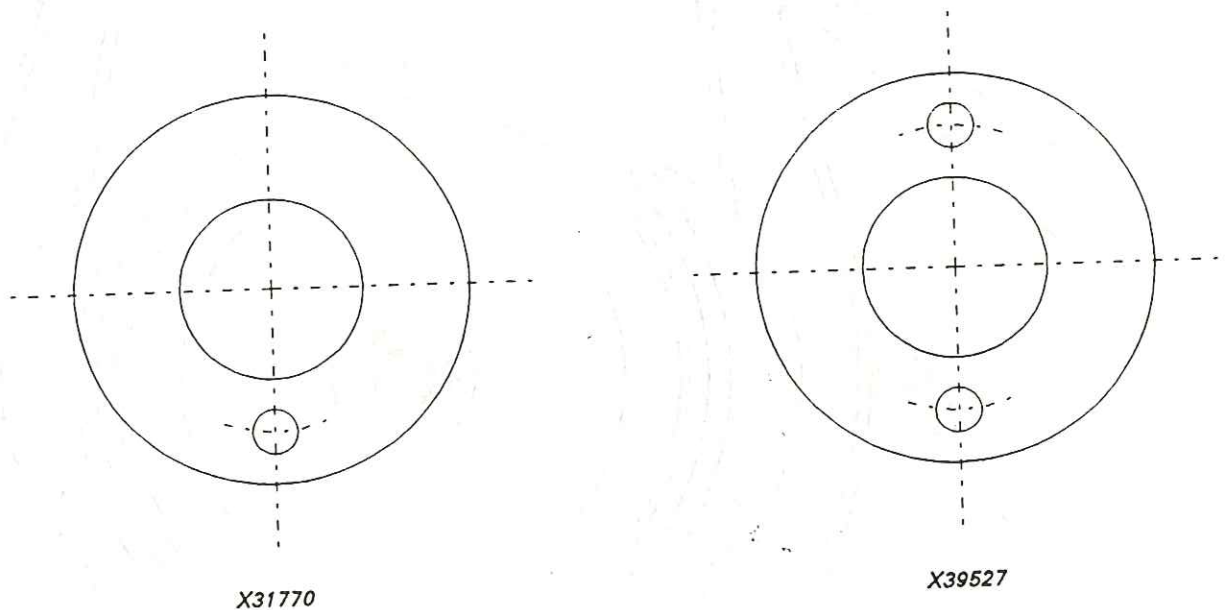

Figure 1 - Washer Identification
4.2 Washers are identified as figure 1.